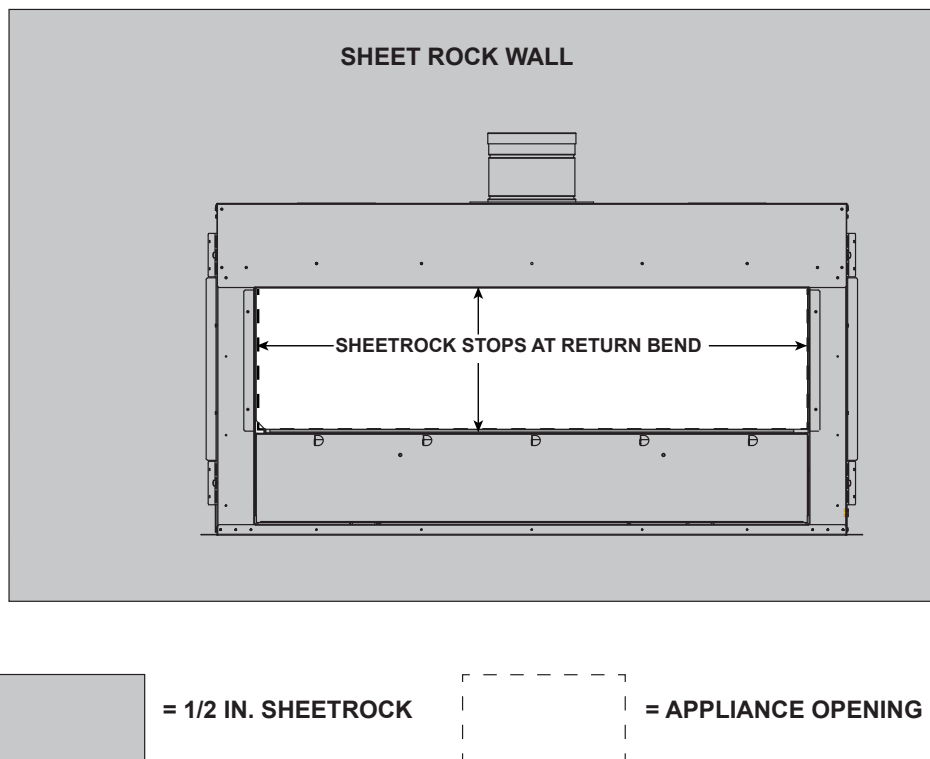
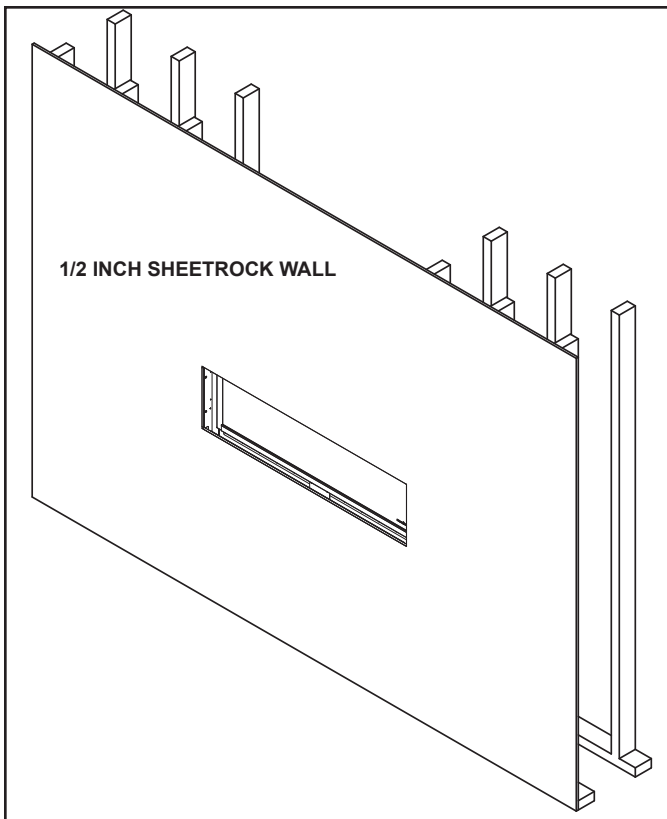

Figure 10.2 Sheetrock Detail for Both Finishing Methods
Figure 10.3
- Facing and/or finishing materials must never overhang into the glass opening. See Figure 10.2.
1. Install 1/2 inch sheetrock on wall. Figure 10.3 shows the PRIMO installed. Sheetrock (1/2 inch) has been installed up to the top, bottom and sides of appliance opening as shown in Figure 10.2 and 10.3. See Section 10.A for more details regarding facing material.